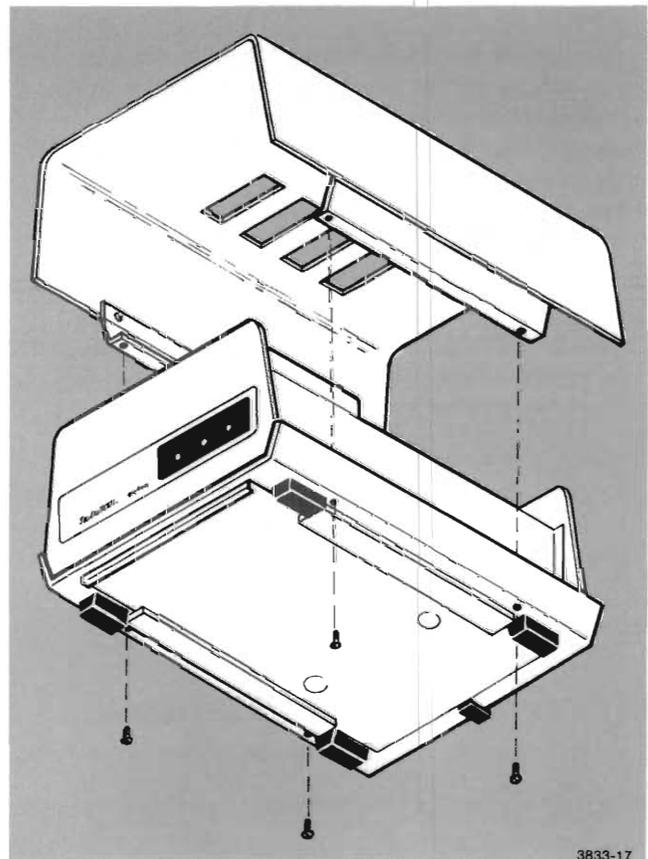

Figure 4-3. Removing the Cover.
2. Remove the cover by removing the four screws shown in Figure 4-3.